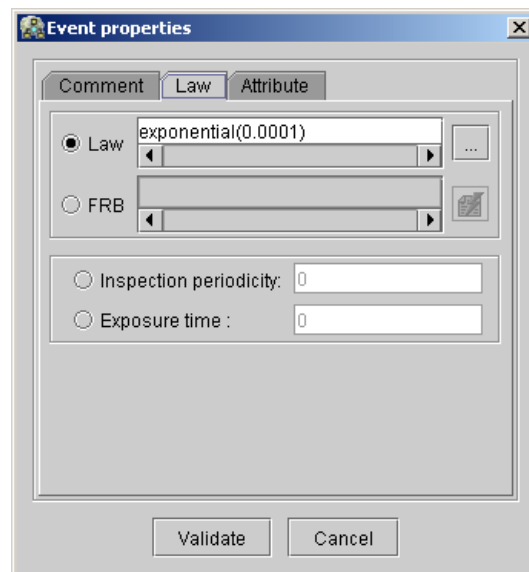

Figure 80 : Event law
To edit the properties of an event, select the event and click on icon  (Figure 80).
- ♦ The button  of Figure 80 opens a law editor which enables easy law writing.